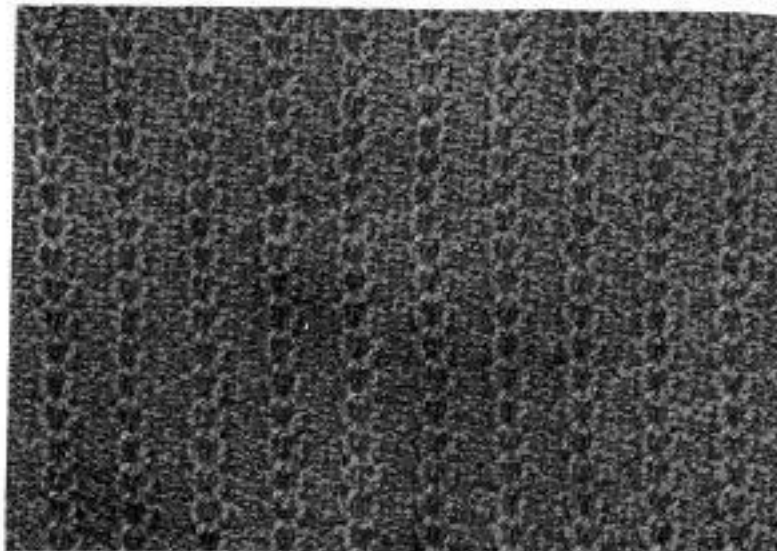

Fig. 124
Fancy Lace Pattern – Automatic Method (Fig. 124)
- Fig. 124** Fancy Lace Pattern with One Colour.